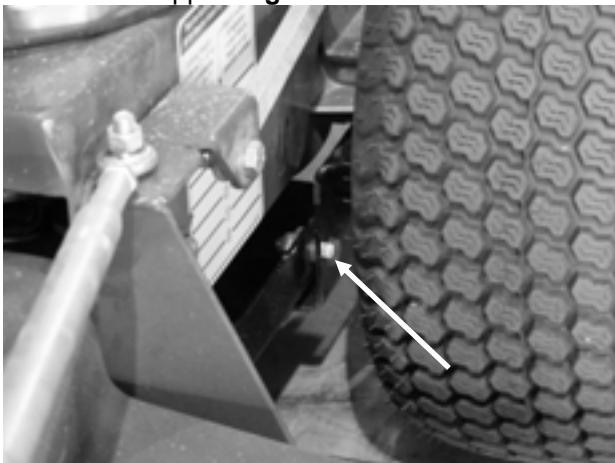

Figure 61
5. It is recommended to have two people for the remaining steps. Using a 9/16" wrench and 9/16" socket, remove the two bolts holding the swingarm to the lower support **Figure 61**.